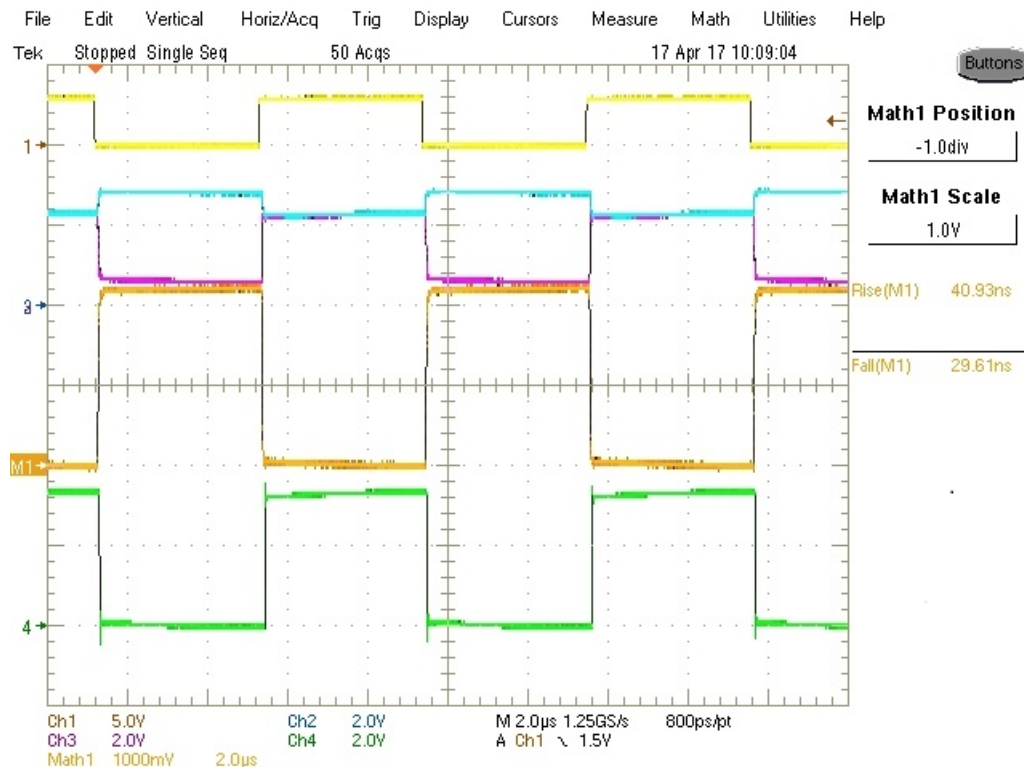
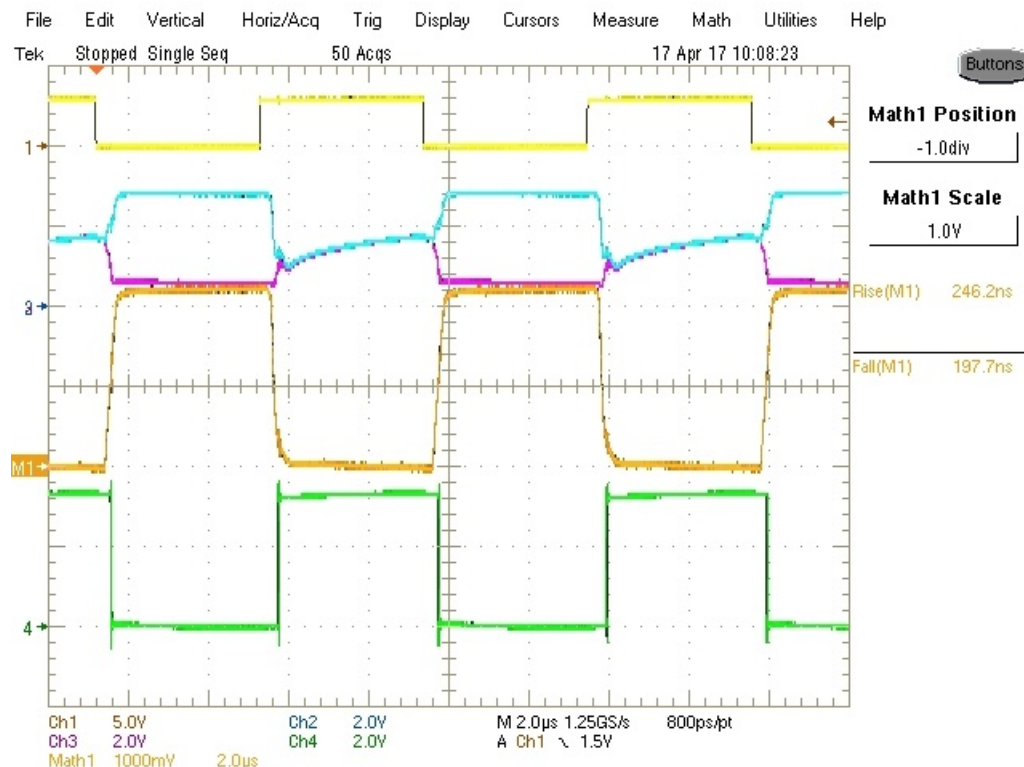
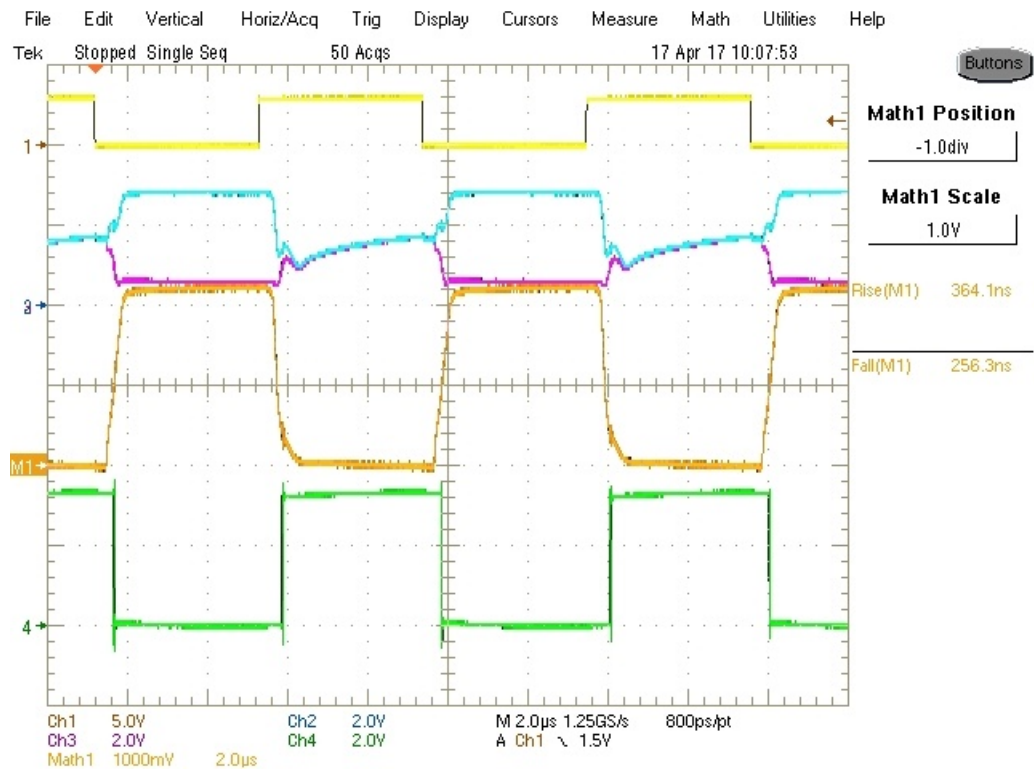

Figure 4.1 Oscilloscope Plot (Fast Speed) Waveforms and Measurements
Figure 4.2 Oscilloscope Plot (Medium Speed) Waveforms and Measurements
Figure 4.3 Oscilloscope Plot (Slow Speed) Waveforms and Measurements
- (5) Use the “Measure” menu of the oscilloscope to set up the following four measurements:
- (6) Ensure that a jumper is installed at J8 (selects fast driver edges by connecting the RS pin to ground) and no jumpers are installed at J5, J6, J7, and J9.
- (7) Enable the function generator. The scope plots should look like the ones shown in Figure 4.1 on page 11.
- (8) In Fast Speed mode ($R_S = 0V$):
- (9) Move the jumper from J8 to J7 (selects medium driver edges by connecting the RS pin to ground through a 10k Ω resistor). Note: No jumpers should be installed at J5, J6, J8, and J9.
- (10) The scope plot should look like the ones in Figure 4.2 on page 11.
- (11) In Medium Speed mode ($R_S = 10k\Omega$):
- (12) Move the jumper from J7 to J6 (selects slow driver edges by connecting the RS pin to ground through a 50k Ω resistor). Note: No jumpers should be installed at J5, J7, J8, and J9.
- (13) The scope plot should look like the ones in Figure 4.3 on page 12.
- (14) In Slow Speed mode ($R_S = 50k\Omega$):